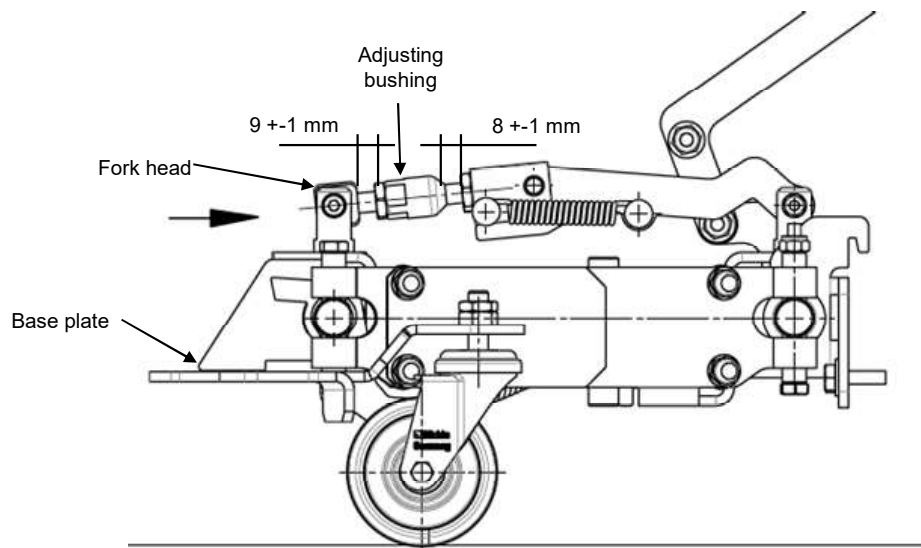

Figure 7.1
1. For default setting of adjusting bushing see figure 7.1 (dimensions 9 and 8 mm).